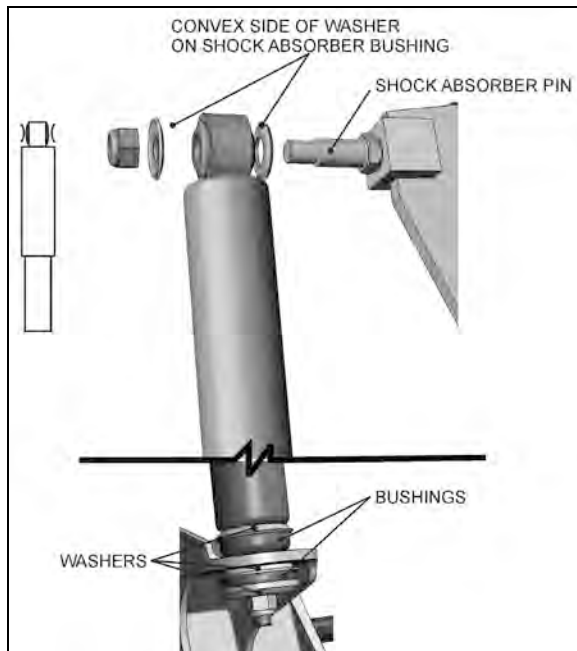

FIGURE 13: TYPICAL SHOCK ABSORBER SETUP 16009
Double-action, telescoping-type shock absorbers ensure a smooth ride and enhance vehicle stability on the road. The tag axle is provided with two shock absorbers while the drive axle is provided with four of them (Figure 13).
1. Remove nuts and washers from shock absorbers on upper mounting pin and lower mounting bracket, taking care to identify the inner and outer washers to ease reinstallation. Refer to Figure 13 for details.